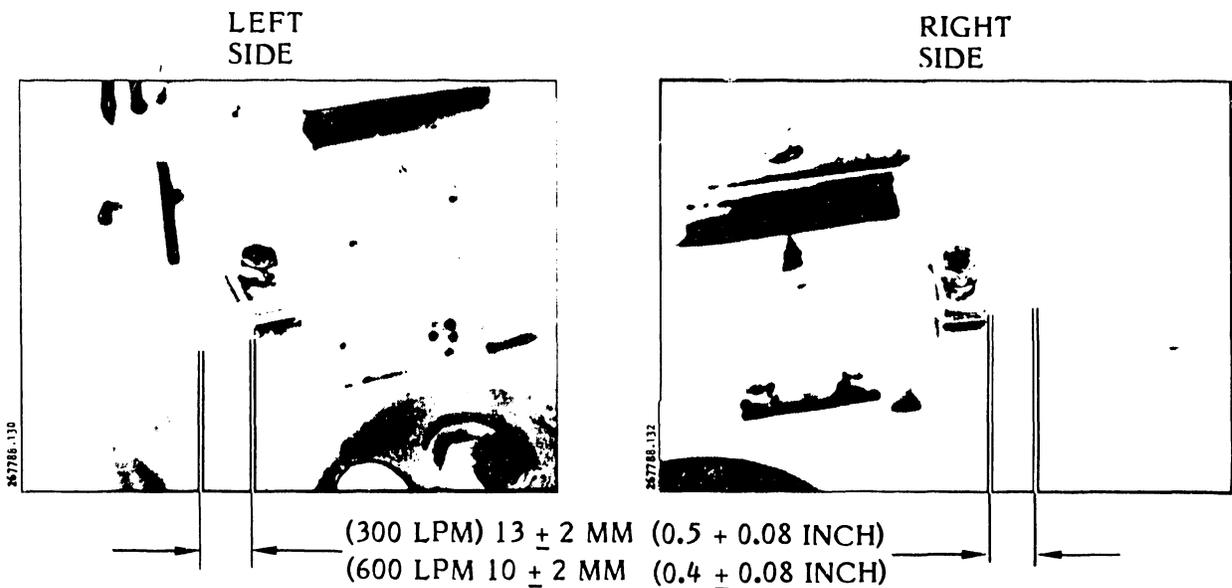

Figure 3-45. Latch Pin Protrusion, Typical
- i. Loosen the two screws securing the right side retract plate (see figure 3-44 and figure 3-45).